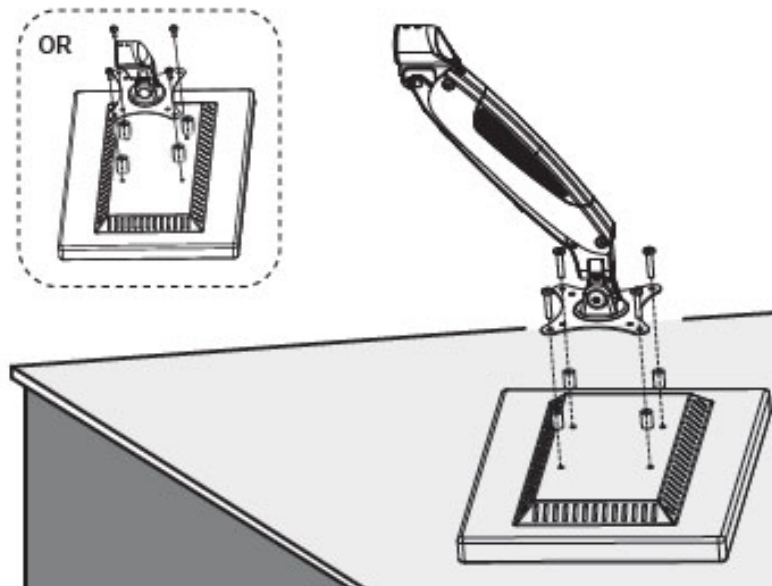

Figure 13B: Curved Back Monitor
- 3-B. For curved back/recessed surface use M4 Spacer with M4x30 Bolt, and tighten using a Phillips screwdriver, see Figure 13B.